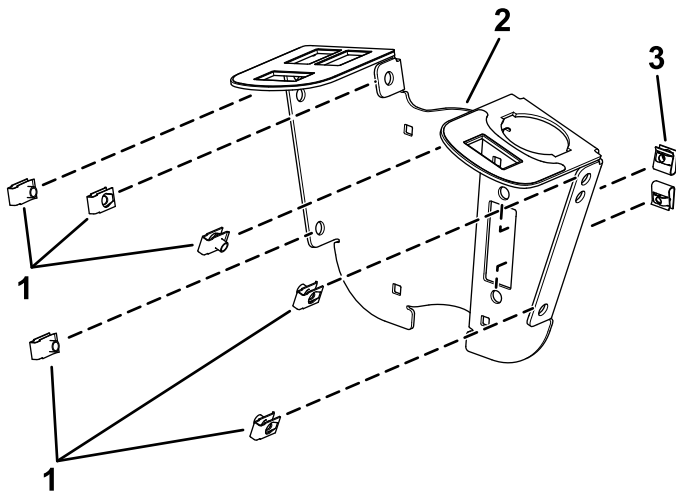

Figure 1
1. Install the 6 clips and 2 speed nuts to the switch mount (Figure 1).